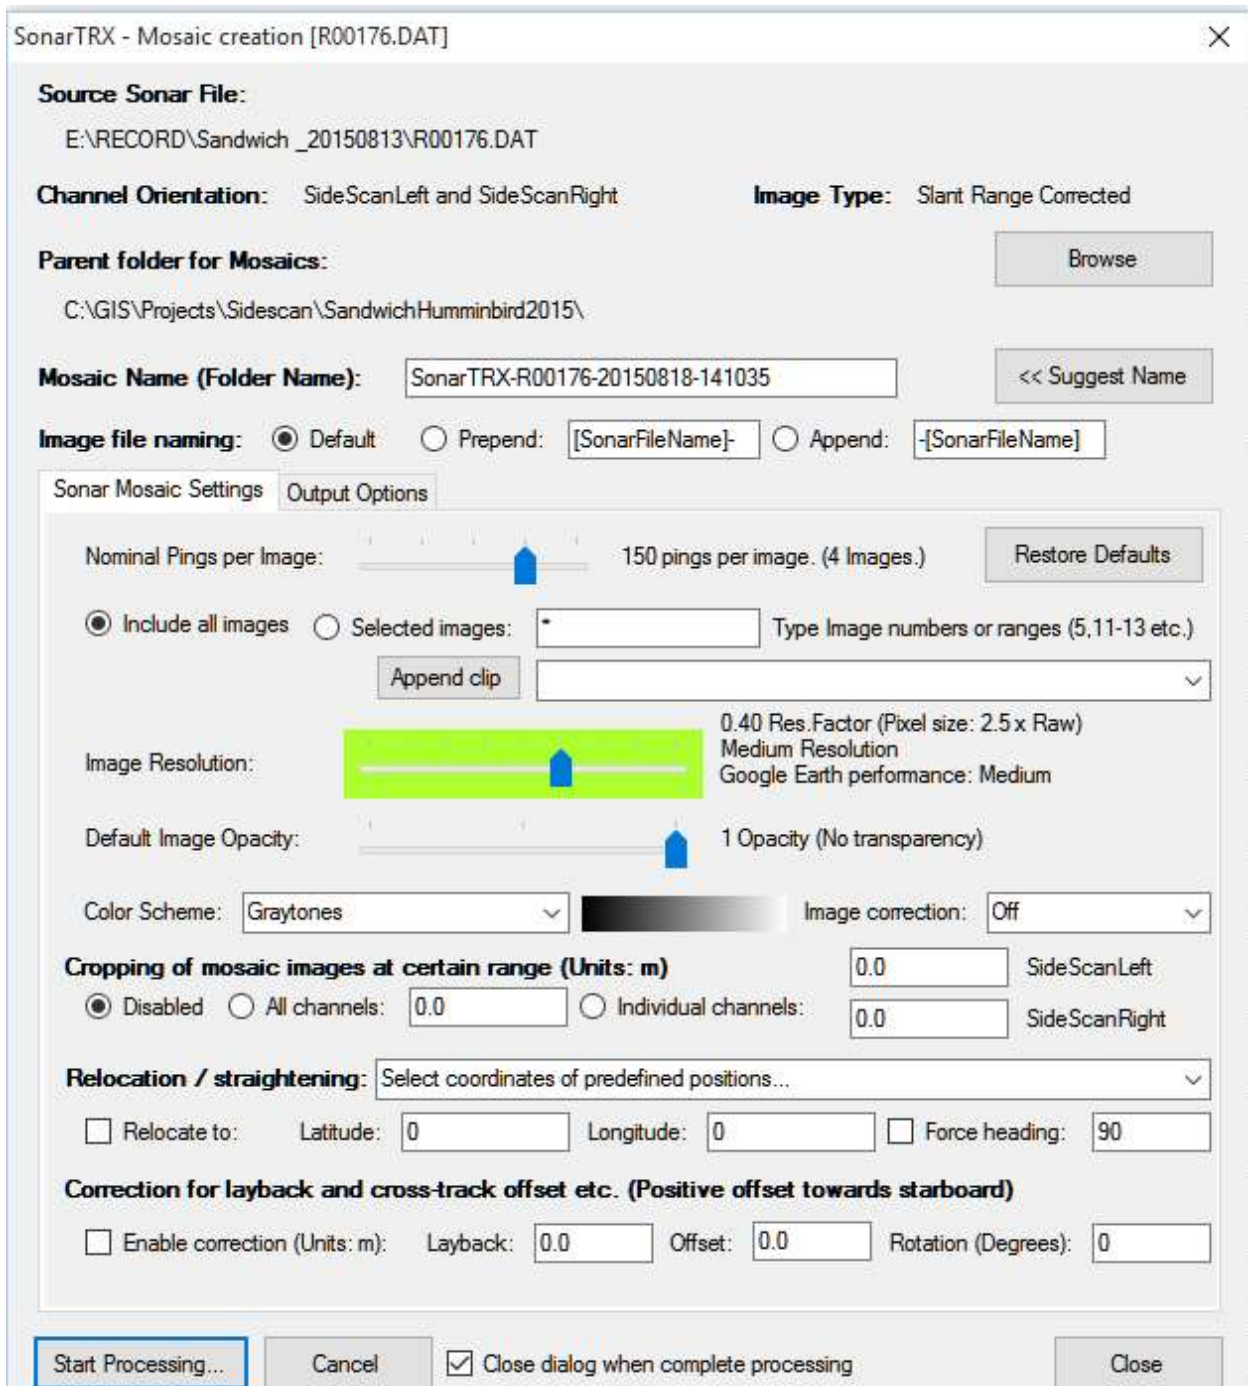

Figure 4-4. Create Mosaic, Sonar Mosaic Settings tab.
- Click on the Sonar Mosaic Settings tab. Use the settings in Figure 4-4.